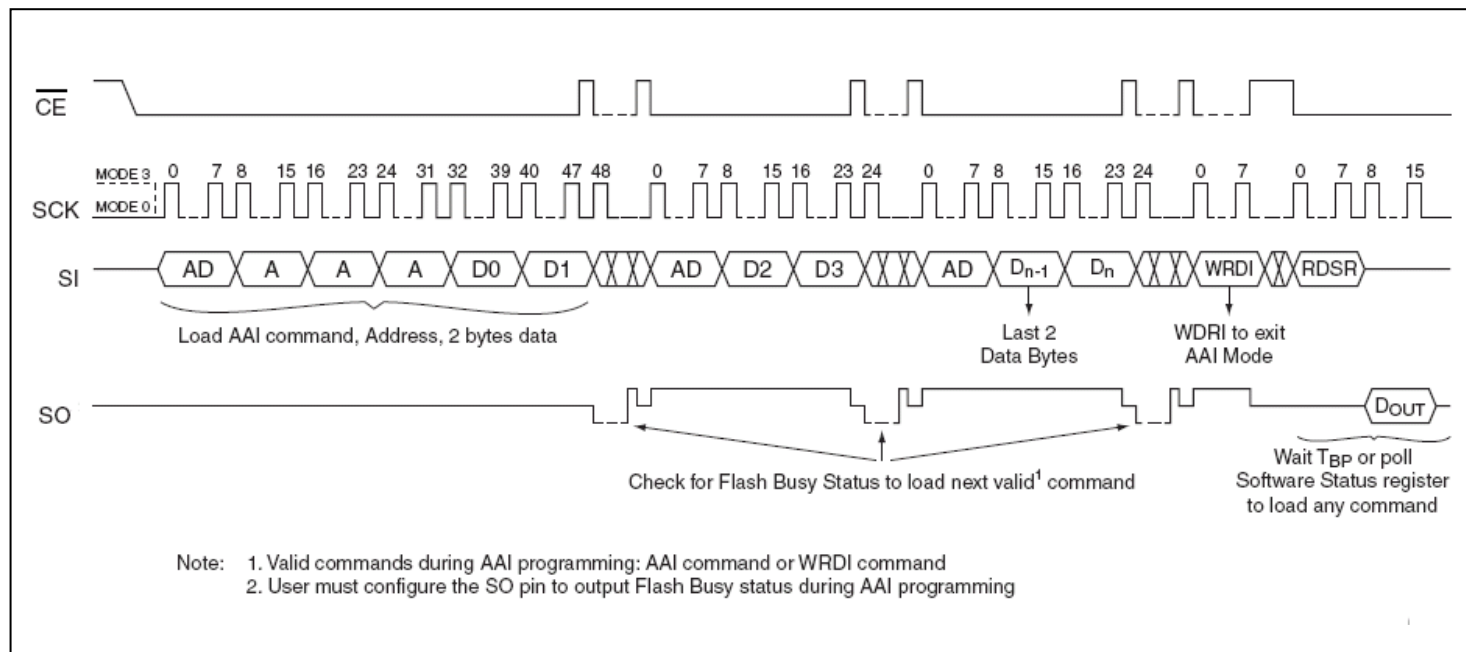
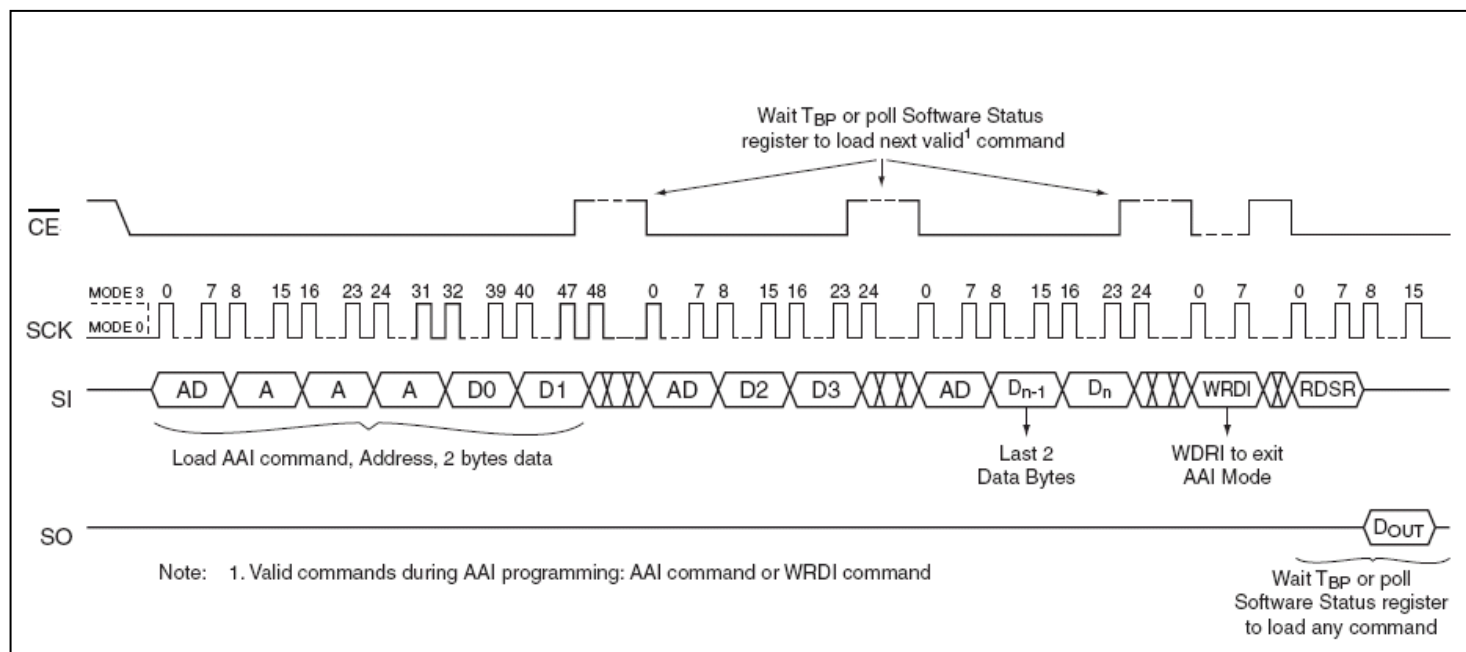

Figure 8: AAI Word Program Sequence with Hardware End of Write Detection
Figure 9: AAI Word Program Sequence with Software End of Write Detection
7) to LSB (bit 0). The first byte of data (D0) will be programmed into the initial address  $[A_{23}-A_1]$  with  $A_0=0$ ; the second byte of data (D1) will be programmed into the initial address  $[A_{23}-A_1]$  with  $A_0=1$ .  $\overline{CE}$  must be driven high before the AAI WORD program instruction is executed. The user must check the busy status before entering the next valid command. Once the device indicates it is no longer busy, data for next two sequential addresses may be programmed and so on. When the last desired byte had been entered, check the busy status using the hardware method or the RDSR instruction and execute the WRDI instruction, to terminate AAI. User must check busy status after WRDI to determine if the device is ready for any command. Please refer to Figure 8 and Figure 9.